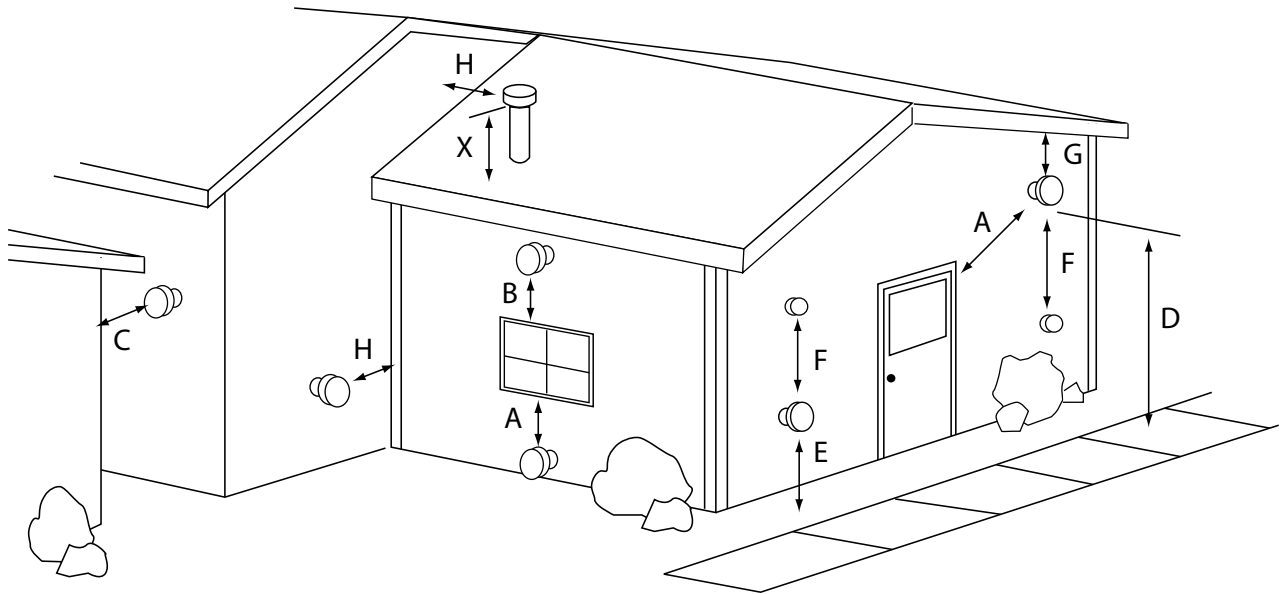

Figure 7: Vent Termination
- The stove vent must terminate on the outside of the building. Horizontal terminations must extend a minimum of 12" from the wall. Vertical terminations must protrude a minimum 24" from the roof surface. **In addition, all clearances listed below must be met. SEE FIGURE 7.**